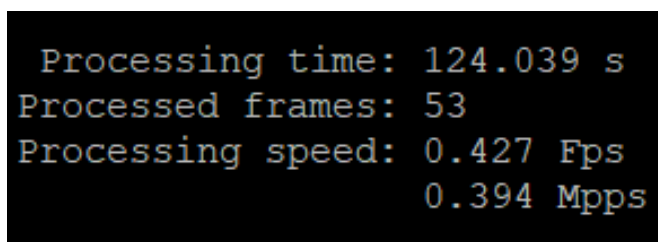
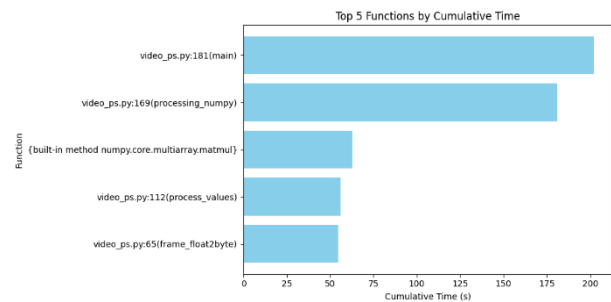

Figure 1: Measurements of PS version without profiling
Figure 2: Profiling top 5 functions by cumulative time
The project started by setting up the board according to the given guide. The notebook *hdmi_introduction* on the board was used as a reference to port the code to PYNQ's PS. The *BaseOverlay* class initialized the base overlay at the start. HDMI input replaced the camera input using *config* and *start*, with video parameters set via the *mode* attribute. HDMI output was configured using the *VideoMode* object for 1280x720 resolution, 24-bit BGR format, and 60 FPS, then added with *config* and *start*. The *readframe* and *writeframe* functions handled HDMI input and output. To handle frame format changes, the *newframe* function created an empty frame, then the old contents were copied to it, and written to output. Finally, the *close* function shuts down both HDMI connections. After this, the performance of PS was measured and profiled. The measurements, executed with profiling disabled, can be seen in Figure 1. The profiling results are shown in Figures 2, 3 and 4.
As shown by Figure 1, the frames per second are extremely low, at 0.427 *Fps*. This implementation is then far from being suitable for real-time playback and enhancement. The best option to accelerate the program's execution is to make a good split between PS and PL. FPGAs (PL) are very efficient in highly parallelizable and data-intensive tasks, while processors (PS) are better at handling complex control logic and iterative processing. This means that we can execute in PL functions like *frame_convert_BGR2YCrCb* and *frame_convert_YCrCb2BGR* (and the corresponding *pixel* versions) because, being matrix multiplications, they are highly parallelizable and data-intensive. This would greatly reduce the execution time, considering *numpy.matmul*, responsible for the matrix multiplication for both functions, has the highest internal execution time and the third highest cumulative time. The function *frame_float2byte* involves simple arithmetic operations applied to each pixel. The uniformity and simplicity of these computations makes this function suitable for PL. Its internal time is also the third highest, meaning a reduction of it would significantly improve performance. Two other functions to execute in PL would be *process_values* and *transform_update*. The transformation of Y channel values involves calculating and applying histograms, which is a data-parallel task that can benefit significantly from the FPGA's ability to process multiple pixels simultaneously. The remaining functions should not benefit from execution in the FPGA and, if they do, it would be a small increase in performance which should not be very relevant, so their execution can remain in PS.